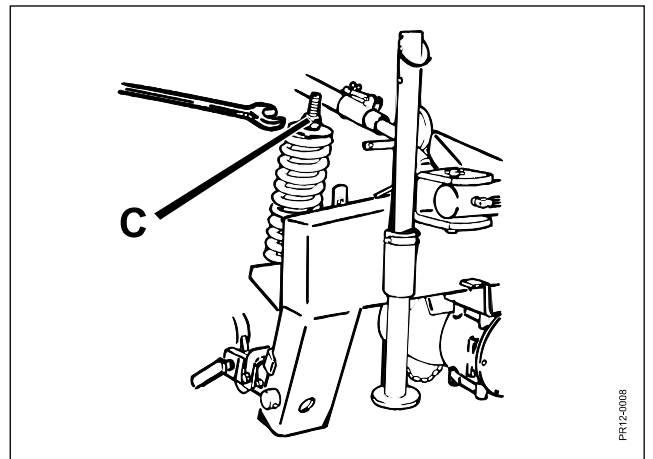

Fig. 2-16
- Fig. 2-16 11) The relief spring is adjusted to the required relief at the spindle **C**.